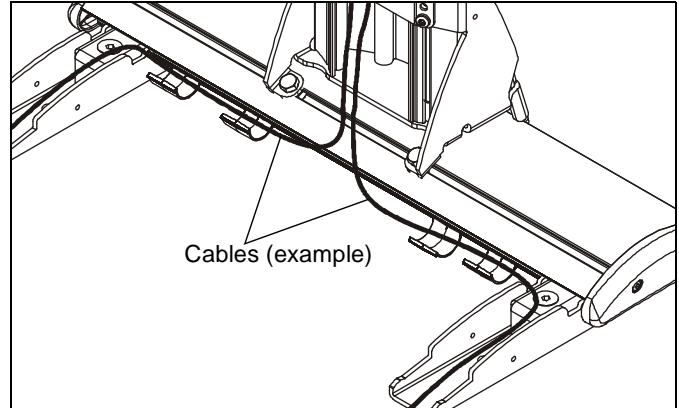

Figure 57
6. Thread cable up wall bracket channel and into opened cable clips. (See Figure 57) **Proceed to Step 8**